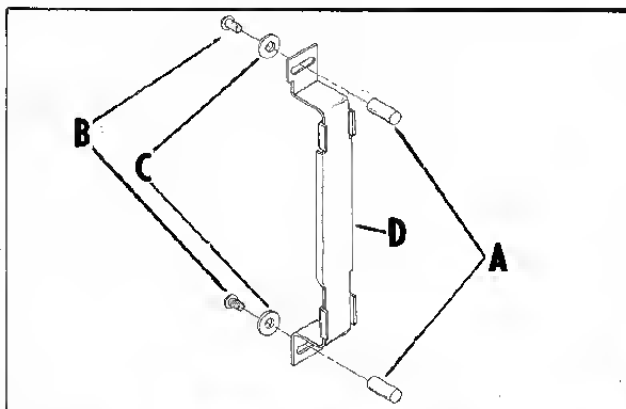

Fig. 26.
1. Assemble the round guides (A) to the sanding platen (D) using the two screws (B) and washers (C), as shown in Fig. 26.